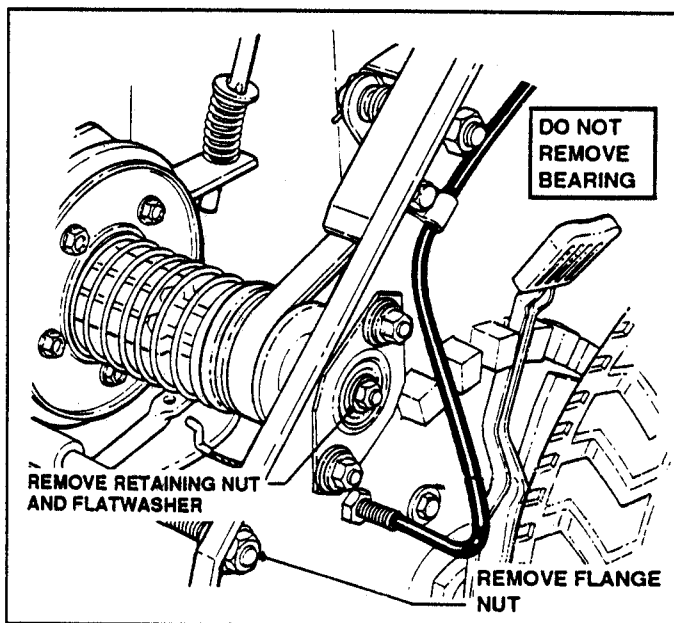

FIGURE 17
5. Remove retaining nut and flat washer from end of shaft. Remove flange lock nut as shown and remove lock nut from other end of same shaft found under deck. See Figure 17.